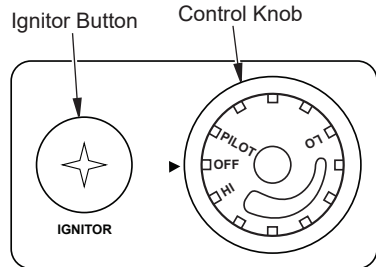

Figure 17 - Control Knob in the OFF Position
4. Wait five (5) minutes to clear out any air. Then smell for gas, including near the floor. If you smell gas, STOP! Follow "B" in the safety information above. If you do not smell gas, go to the next step.
5. Turn control knob counterclockwise  to the PILOT position. Press in control knob for five (5) seconds (see Figure 17).